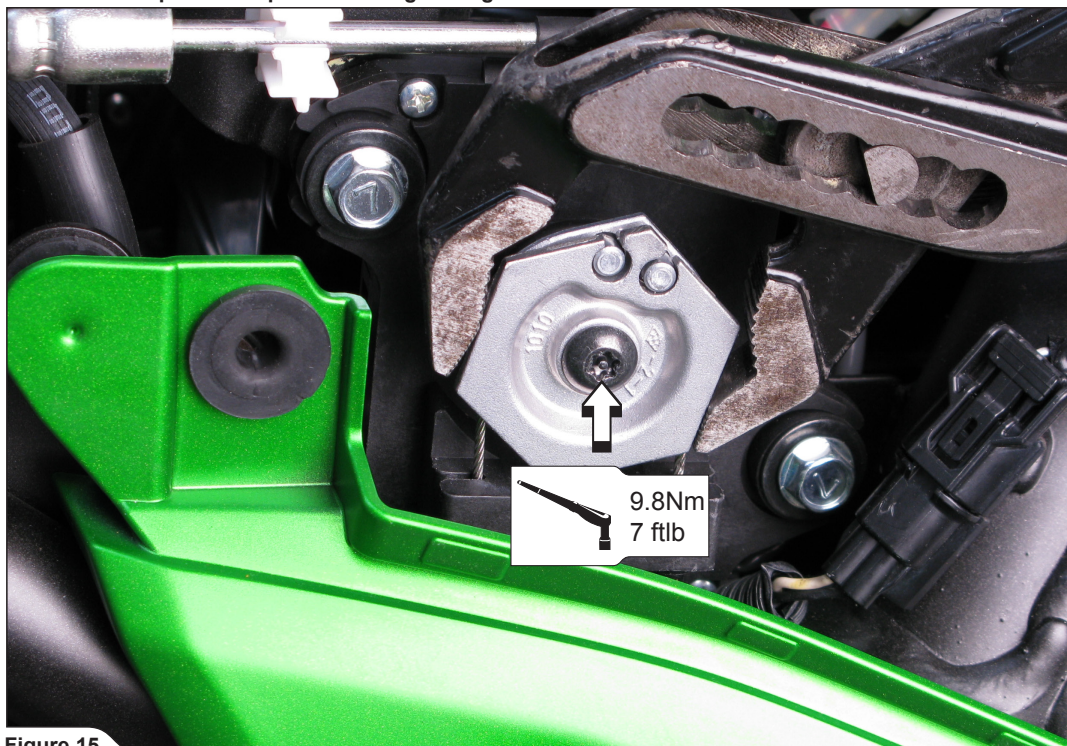

Figure 15
6. Tighten servo motor wheel on the valve servo motor and replace all dismantled original parts (plastic cowling, driver's and passenger's seat) in the reverse order from the order in which they were removed. Check vehicle manufacturer manual for tightening torques (**Figure 15**).